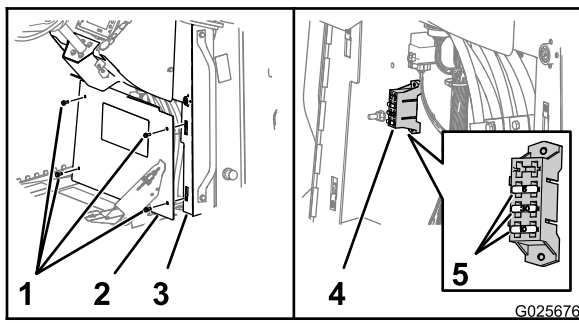

Figure 86
3. Remove the 4 hex-flanged bolts (5/16 x 3/4 inch) that secure the cover to the console and remove the cover (Figure 86).
4. Locate the open fuse and replace it with a fuse of the same type and amperage (Figure 86).
6. Align the hole in the cover with the nut clips on the flanges of the console (Figure 86).